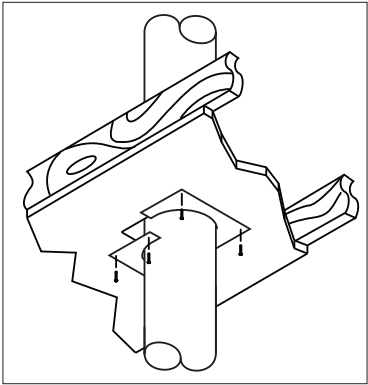

Figure 2
- 3. Slide the two halves together and attach to the ceiling using either 8 penny nails or #8 1-1/2in wood screws at each of the four corners and at the two overlapping sides (**Fig.2**)